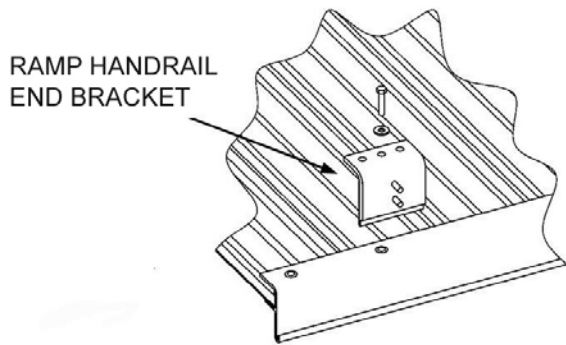

FIG 15a
- a. For 4', 6', and 8' ramps, use one at each outside corner of the ramp section using one 5/16" x 1 1/2" bolt & washer into the threaded insert second from the end of the ramp (FIG 15a).